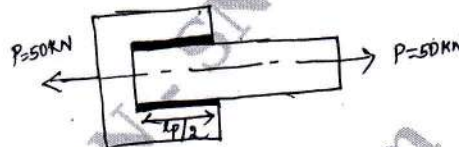

Fig.Q8(a)
- 8 a. A plate of 80mm wide and 10mm thick is to be welded to another plate by means of parallel fillet welds. Plates are subjected to a load of 50 kN. Find the length of weld so that maximum stress does not exceed 50 MPa. Consider joint under static and dynamic loading. [Refer Fig.Q8(a)]